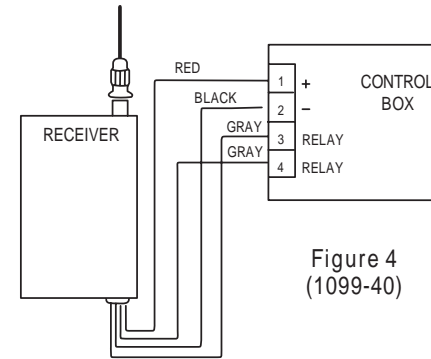

Figure 4 (1099-40)
**IF YOU HAVE THE MODEL 1099-40:** The red wire will go to the positive 12 volt terminal in the operator. The black wire will go to the negative terminal or ground terminal of the operator. Connect the two gray wires as specified by the manufacturer of your operator. If such instructions do not exist, wire the two gray wires in parallel with the pushbutton terminals (see figure 4).